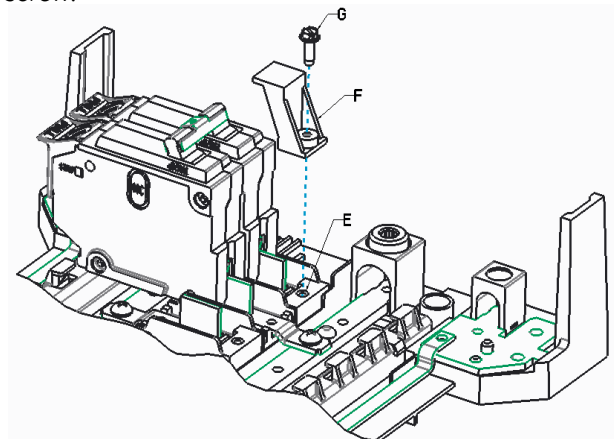

Figure 2: Install Retainer to Secure Breaker
3. Install the 2-pole main circuit breaker (D) on either side of the two stabs nearest to the main lugs of the load center. See Figure 2.
4. With the circuit breaker still in the "OFF" position, screw the Retainer (F), with its captive self tapping screw (G), the the hole (E) located in front of the stab. See Figure 2. Do not use excessive force to tighten the screw.